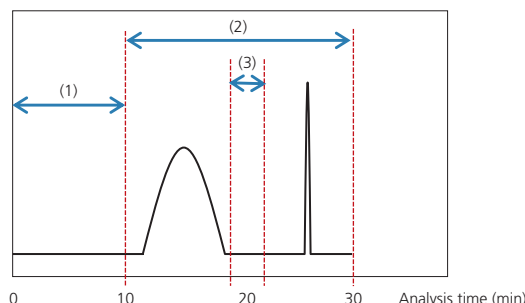
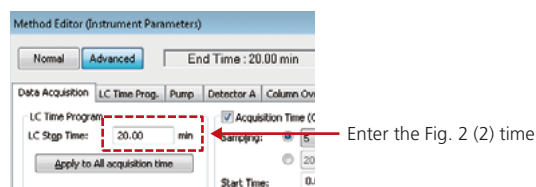

Fig. 2 GPC Chromatogram Example
Fig. 5 Data Acquisition Time Setting
Overlapped injection is set as shown in Fig. 2. Using the following chromatogram examples, the concepts for overlapping injection setting are introduced.
In Fig. 2, because no components are being eluted in period (1), there is no need to record any data, and this time is overlapped with the latter half of (2) of the immediately previous analysis.
To avoid any influence by the injection operation on the chromatogram, the injection operation for the second analysis is started at around 20 minutes (Fig. 2 (3))
Overlapped injection can be set up easily from the LabSolutions analysis data system. The times determined in the procedure in Section 2 are entered into a method file as analysis conditions. The Fig. 2 (2) time is entered as [LC End Time] (Fig. 5).
Set the [Data processing time] to 0.5 min. (initial value), and enter the value of the difference between the time when data is not being acquired (Fig. 2 (1)) and the [Data processing time] (9.5 minutes in this example) as the [Overlap time].